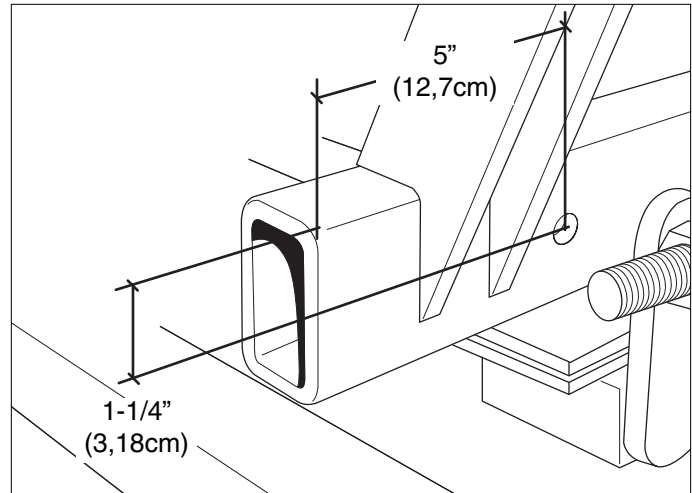

Figure 34. Hole Location
1. Measure and mark the front main frame tubes to the dimensions shown in Figure 34.
2. Using a 3/8" drill bit, drill one (1) hole in each of the main frame tubes from the outside surface of the tube.